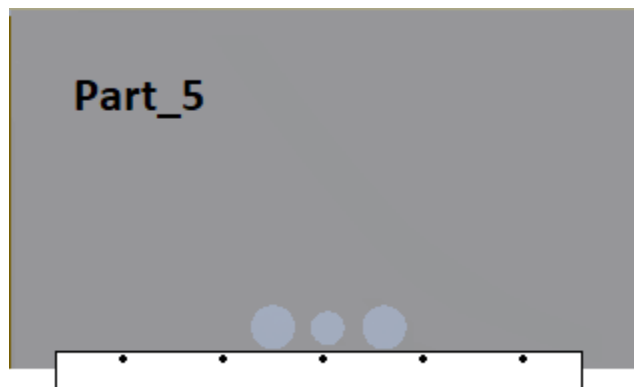

Figure 5
- In part\_5 attach a strip, as shown in figure 5 each black dot represents a nut bolt and washer.